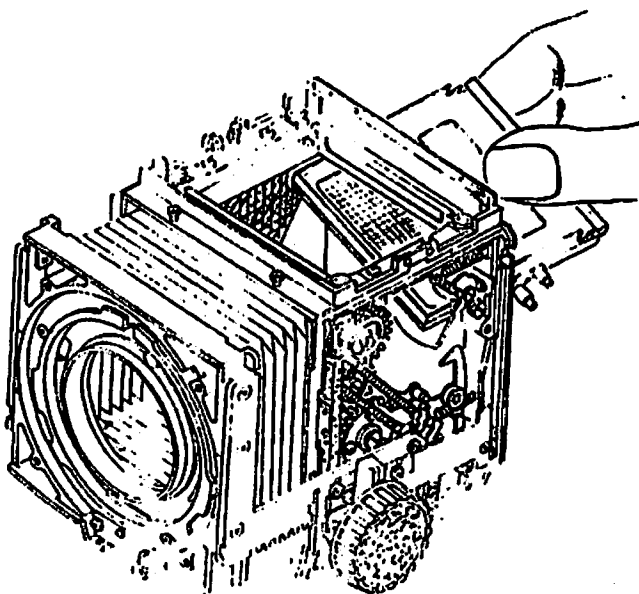

Fig 38
- (1) Remove above parts keeping Mirror being pressed down.
- (2) Insert Tool (71.5mm shaft) for reassembling Mirror holder before removing them.
- (3) Remove them as shown in Fig. 38.